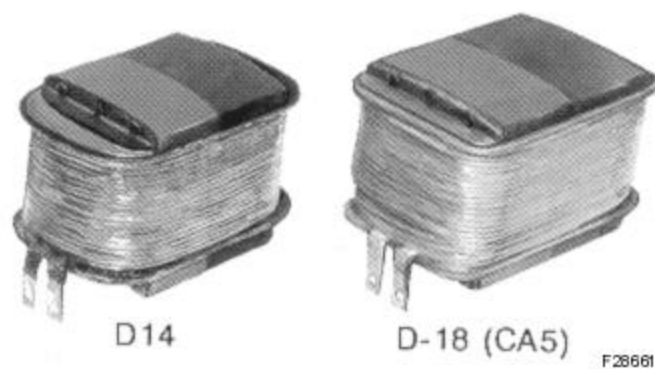

Fig. 12 – Rotor Pole Comparison
3. Support the alternator rotor using an alternator rotor-lifting sling, as shown in Fig. 12, and a crane. Refer to Service Data for file Drawing number of sling.